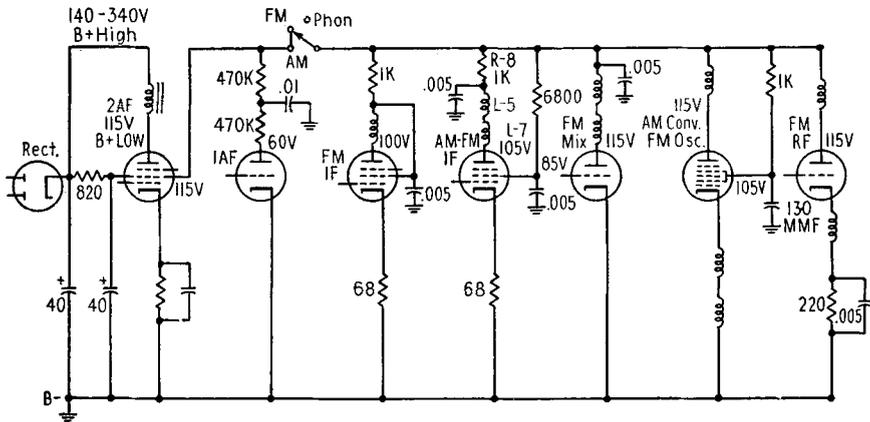

FIG. 25-20. Skeleton *B* circuit of the basic A-M/F-M receiver.
**Voltage checking the A-M/F-M set.** The signal check is effective in locating a defective stage. After that, voltage checking a defective stage becomes a powerful weapon in locating the specific defective components. The value of this technique is indicated in the skeleton *B* circuit, shown in Fig. 25-20. The signal circuits have been deliberately